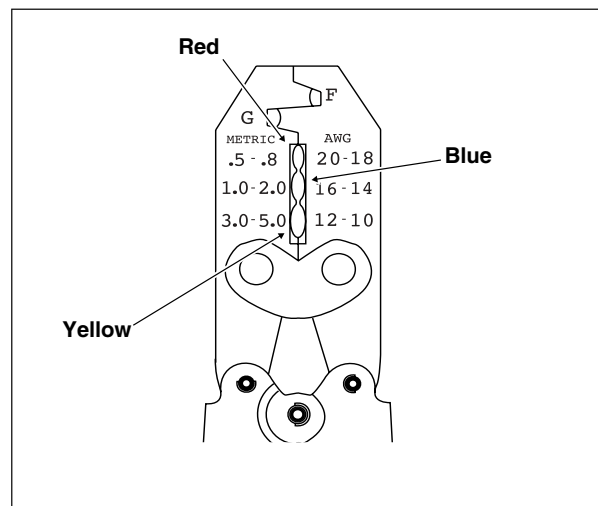

Figure B-39. Packard Crimp Tool (HD-38125-8)
- Determine the correct die or nest for the crimping operation. Match the color or gauge wire marked on the butt splice connector with the corresponding crimp cavity on the crimp tool. See Figure B-39.